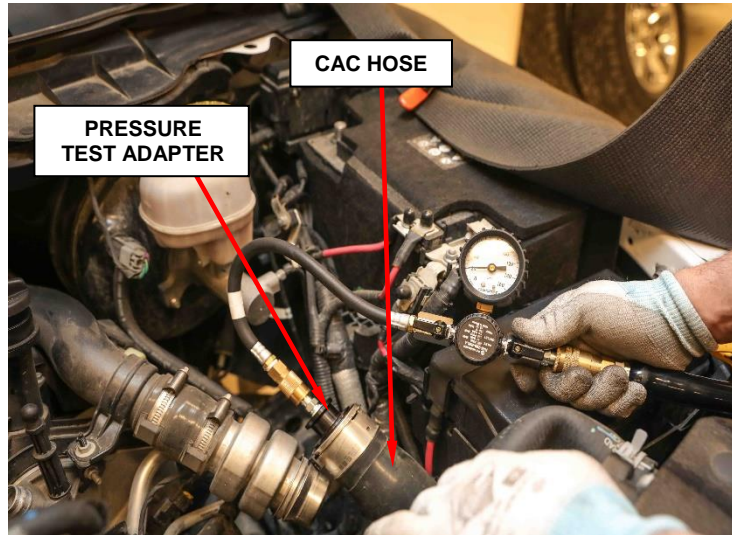

Figure 4 – Intake Pressure Test
4. Remove the Charge Air Cooler (CAC) hose from the turbocharger outlet (WK and pre 16MY DS) or from the resonator assembly (2016 and newer DS), and install Charge Air Cooler *Pressure Test Adapter 2048002090* into the CAC hose (Figure 4).
5. Install suitable air pressure regulator onto test adapter set to 20psi of air pressure (Figure 4).